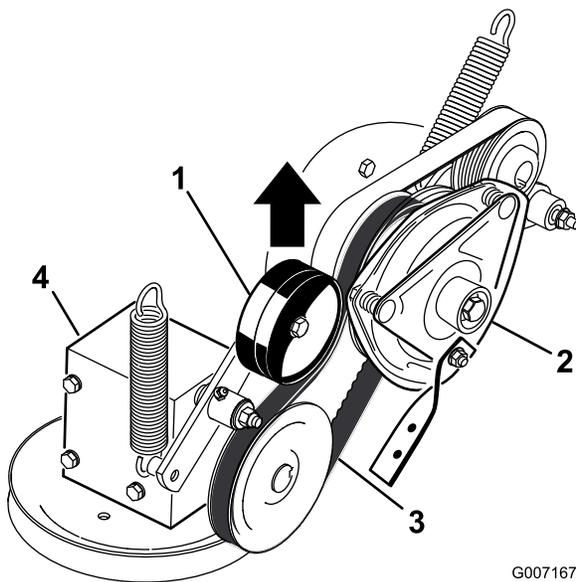

Figure 57
5. Pull up on the spring loaded idler pulley for the PTO drive belt and remove the belt from the clutch pulley (Figure 57).
17. Pull up on the spring loaded idler for the PTO drive belt and install it onto the clutch pulley (Figure 57).